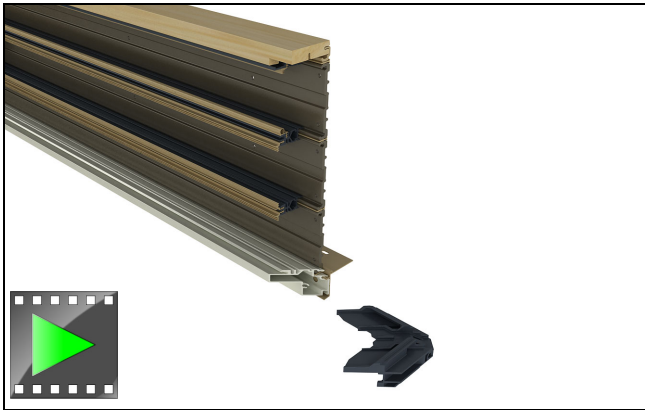

Figure 15
1. Lay out the four sides of frame and insert frame cladding corner keys into head jamb. See figure 15.